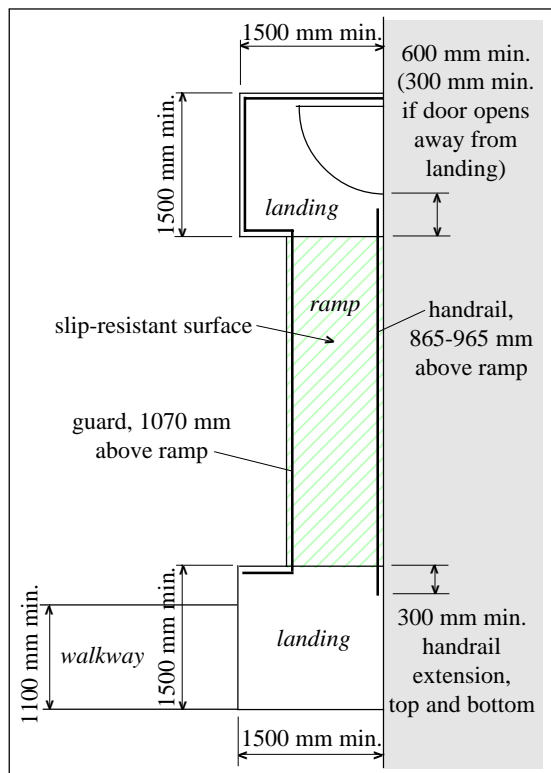

Figure 1
- Level landings of not less than 1 500 by 1 500 mm must be provided at the top and bottom of a ramp. (Figure 1)
- If a door opens onto a top, bottom or intermediate landing, the level area shall extend not less than 600 mm beyond the latch side of the door. If a door opens away from a top, bottom or intermediate landing, the level area shall extend not less than 300 mm beyond the latch side of the door. (Figures 1 and 3)
- At least one handrail shall extend not less than 300 mm beyond the top and bottom of the ramp. (Figure 1)
- Handrails shall be designed to withstand loads as specified in Clause 3.4.6.4.(9) of the NBC 1995.